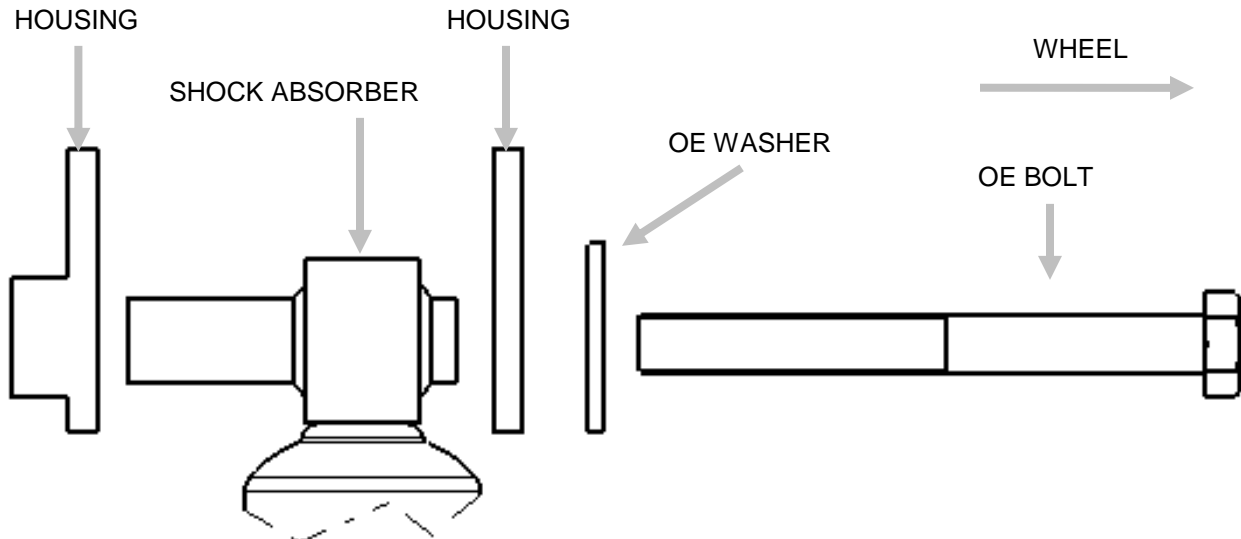

Figure 12 – Passenger side top mount
- U. Install the passenger side shock in the original location with the top mount offsetting away from the vehicle as shown in Figure 12.